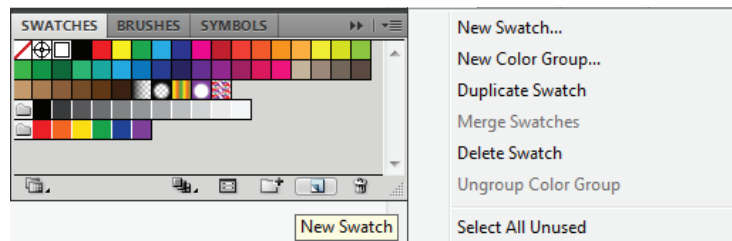

Figure 2
2. Click the arrow in the upper right-hand corner of the Swatches palette to display a secondary menu and select *New Swatch* to display the New Swatch dialog, or click the New Swatch icon on the Swatches toolbar (Figure 2).